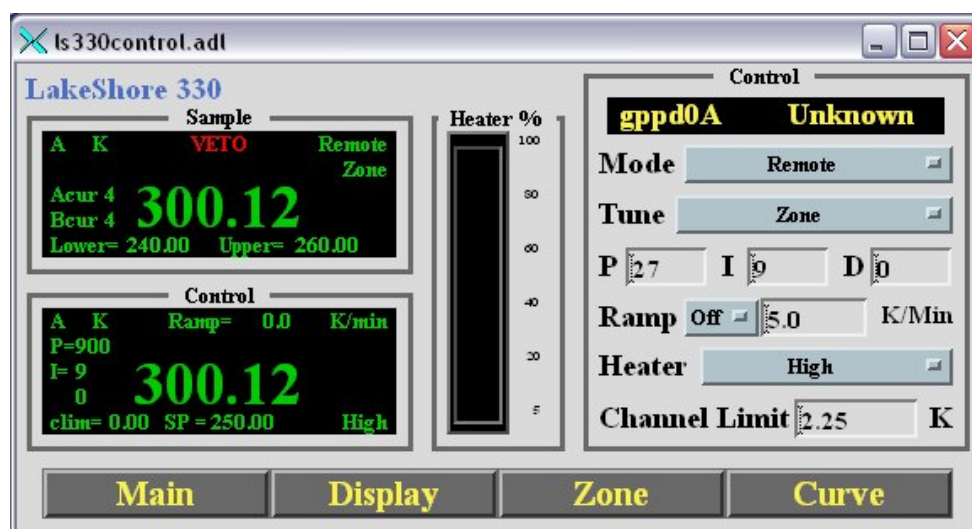

Figure 25: LS 330 "Control" Display
4. Locate the button labeled **Control**. Click this button to switch to the "control" interface window. See: Figure 25